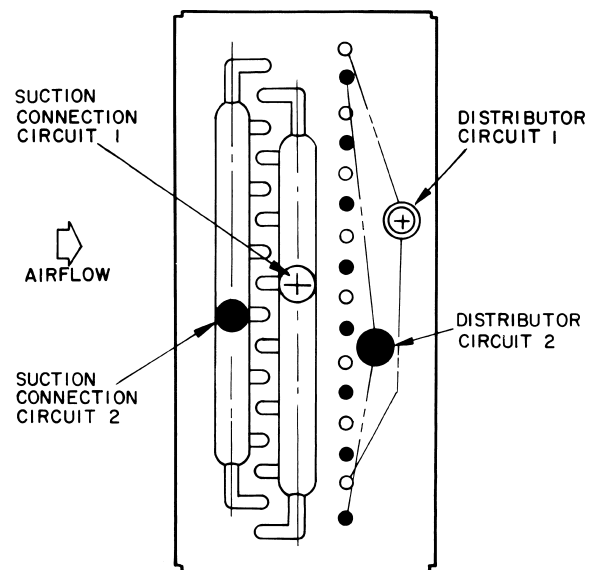

Fig. 31 — Typical Direct-Expansion Row Split Coil
Refrigerant Piping, Direct-Expansion (DX) Coils (Fig. 31) — Direct-expansion coils are divided into 2 or 4 splits depending upon the unit size and coil circuiting. See Table 9 for coil circuiting data. Each split requires its own distributor nozzle, expansion valve, and suction piping. Suction connections are on the air entering side when the coil is properly installed. Matching distributor connections for each coil split are on the air leaving side. See unit label or certified drawing to assure connection to matching suction and liquid connections. See Table 10 for distributor part numbers.
Row split coils utilize special intertwined circuits (as shown in Fig. 31); either split of these row split coils can be *first on, last off*.